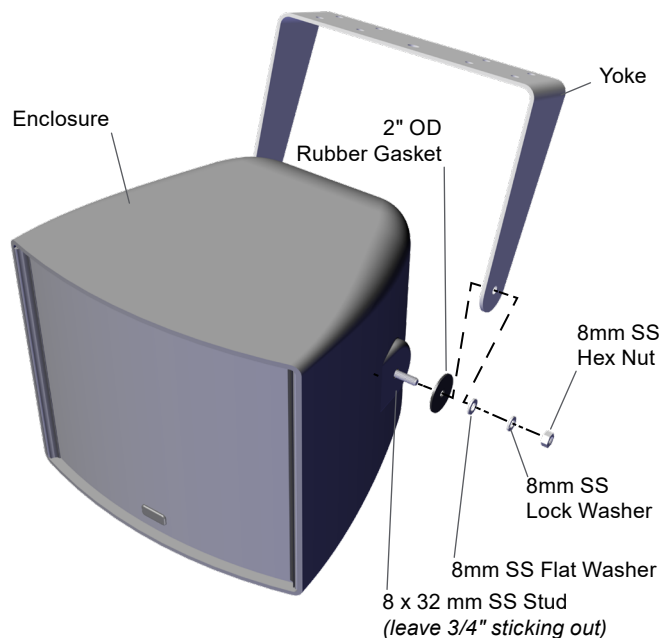

Figure 3. Mount the loudspeaker to the yoke
2. Attach the loudspeaker to the yoke. See Figure 3. Screw an 8mm stud into each side of the loudspeaker until it protrudes 3/4" (19mm). Place the rubber washers on the studs and then lift the loudspeaker into place between the yoke arms. Attach remaining hardware. Support the enclosure until both sides are secured. Tighten bolts enough to hold the loudspeaker in position.